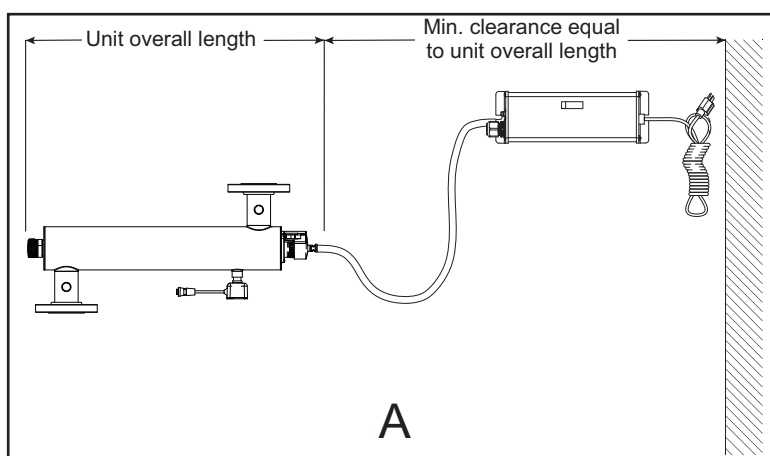

Figure 3 Disinfection Installation - Vertical and Horizontal
2. **Figure 3** shows the installation of a typical disinfection system and the related components that may be used for the installation. The use of a by-pass assembly is recommended in case the system requires “off-line” maintenance. In this case, note the system requires a supplementary disinfection for the distribution system if any water is used during by-pass condition.
3. Select a suitable location for the disinfection system and its related components. As it is recommended to install a GFCI, make sure that this is taken into consideration prior to any installation. The system can either be installed vertically (inlet port at the bottom) or horizontally as shown in **Figure 3 A**. However, the vertical installation is the most preferred method. When selecting a mounting location, leave enough space to allow the removal of the UV lamp and/or quartz sleeve (typically leave a space equal to the size of the chamber itself).